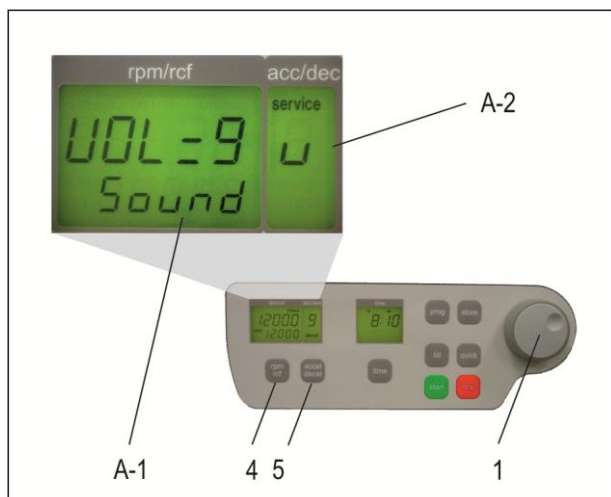

Figure 8
Proceed as illustrated, under point 1.8.1, to enter this program mode, press the key "accel/decel" (5). In the display, "accel/decel" (A-2), flashes the word, "service". Select the letter, "u" with the adjustable knob (1). As a result, appearing in the display, "rpm/rcf" (A-1), are the words, "Vol=0-9/Sound". By pressing the key, "rpm/rcf" (4), the desired volume can be adjusted between 0 (low) and 9 (loud), with the adjustable knob (1), (see Figure 8).